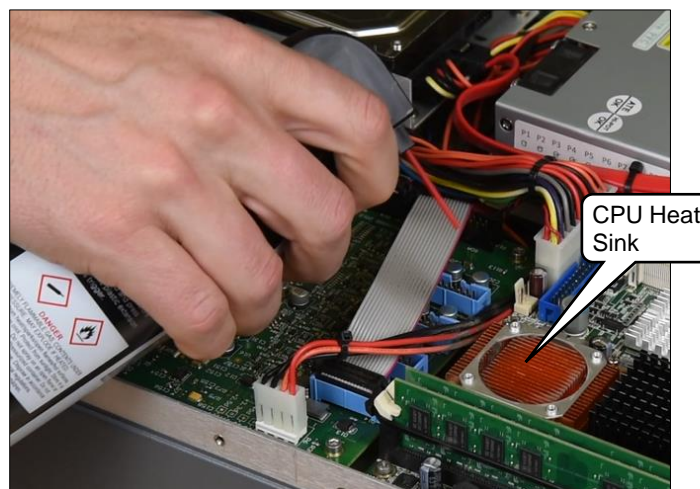

Figure 6: Use Compressed Air to Clean CPU Heat Sink
9. Using compressed air, clean the exposed CPU heat sink to remove accumulated dust and debris (Figure 6).